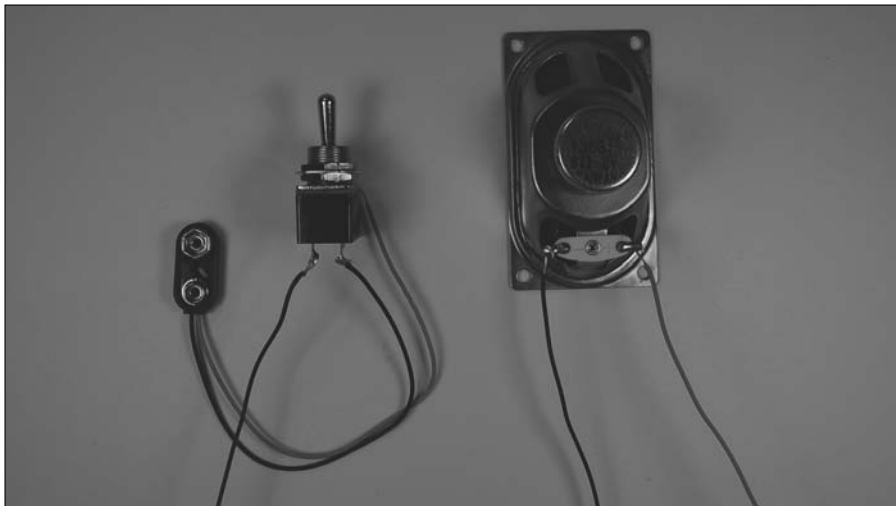

Figure 9-23:
6. **Connect 6" wires (any color will work just fine) to the speaker and solder them, as shown in Figure 9-23.**
7. **Connect the black wire from the battery pack snap and another 6" black wire to the on/off switch and solder them together, as shown in Figure 9-23.**